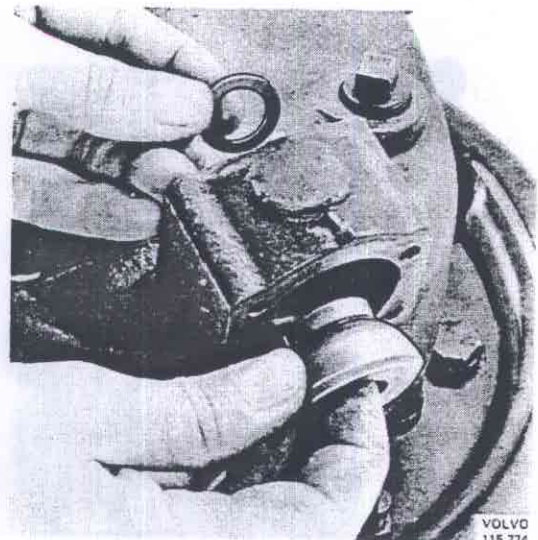

Fig. 46-106. Installing the ball shell
8. Fit the lower bolt in position. Place the same number of shims on the bolt that was removed during disassembling. Fit the ball shell in position, Fig. 46-106. Fit the nut and tighten it to a